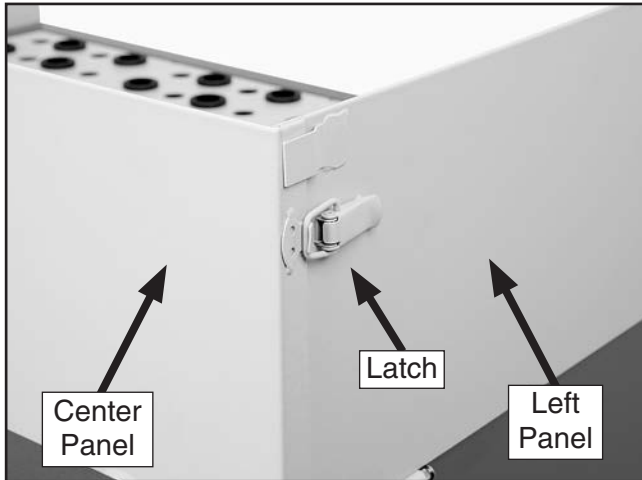

Figure 12. Panels secured with latches (one shown).
- With the side panels in the upright position, slide the center panel (**Figure 12**) into the side panel brackets and secure with the latch.